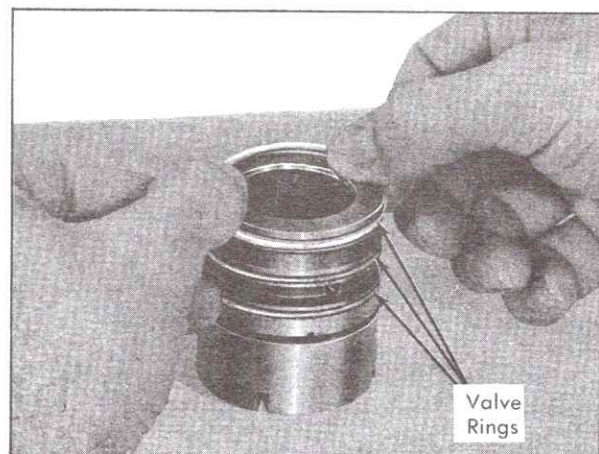

Fig. 9-31 Installing Valve Ring
1. If new valve body ring back-up O-ring seals are necessary, lubricate them with power steering fluid. Assemble in ring grooves on valve body. Do not allow seals to become twisted. If new valve rings are necessary, lubricate them with power steering fluid and assemble valve rings in ring grooves over back-up O-ring seals by carefully slipping rings over valve body, Fig. 9-31. Rings may appear to be loose in grooves, but the heat of the oil after assembly will cause them to tighten.